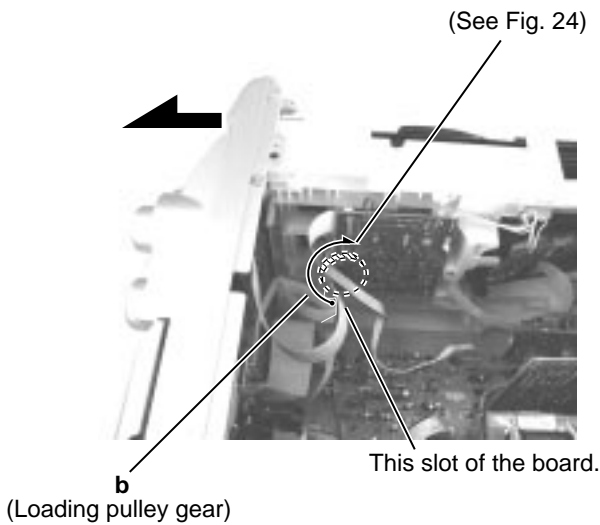

Fig.7
1. Turn the black loading pulley gear marked **b** from the back of the CD changer unit as shown in Fig.7 and draw the CD tray toward the front.